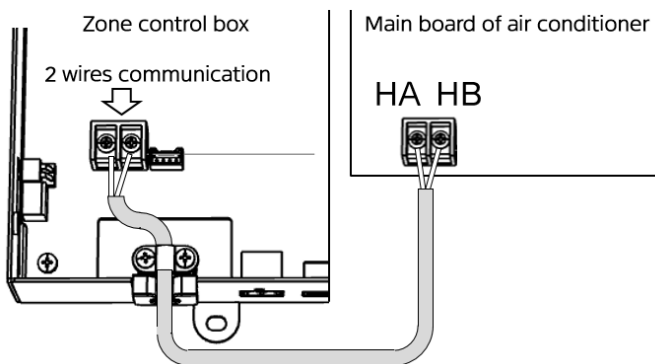

Fig 3.3.2
- For ducted systems with HA/HB terminals on the main indoor board, please connect the 2-wire communication terminal and the HA/HB terminal with 2-wires (Fig 3.3.2)